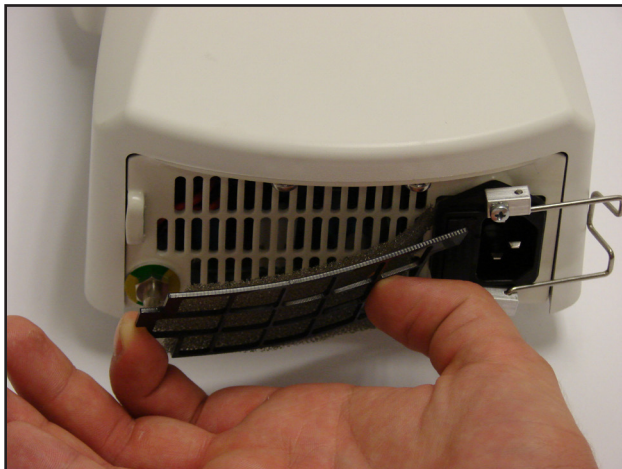

Figure 11-1
1. Press the left and right sides of the air filter guard inward to release the guard and remove the filter (Refer to Figure 11-1).